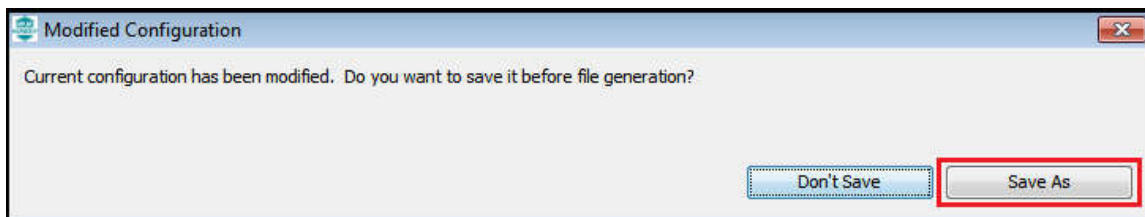

Figure 6-2. Modified Configuration
1. Saving the MHC configuration file. See Figures 6-2 and 6-3.